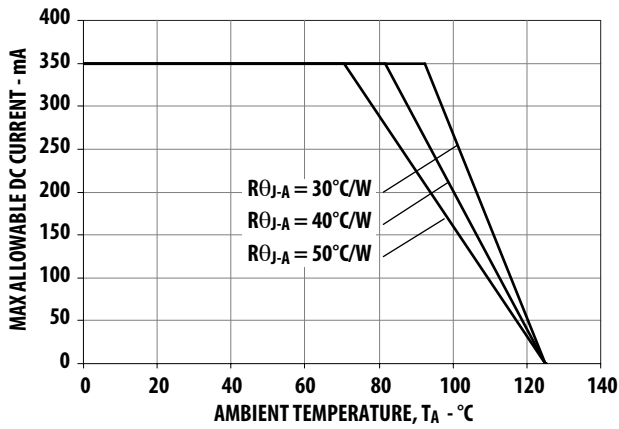

Figure 7. Maximum Forward Current vs. Ambient Temperature.
- Derate linearly based on Figure. 7 for AllnGaP and Figure. 17 for InGaN.